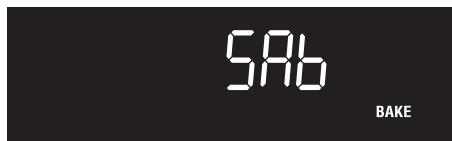

Figure 25: Oven set for Sabbath baking
5. Press and hold the **Bake Time** key and **Set Clock** key simultaneously for about 3 seconds. **SAb** will appear in the display indicating the oven is properly set for the Sabbath feature (Figure 25).